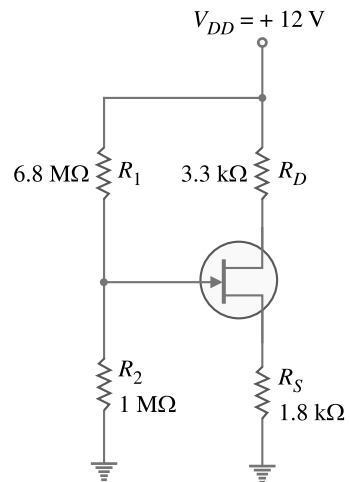

Fig. 17.32
**Example 17.21.** Determine  $I_D$  and  $V_{GS}$  for the *n*-channel JFET with voltage-divider bias in Fig. 17.32, given that  $V_D = 7\text{V}$ .